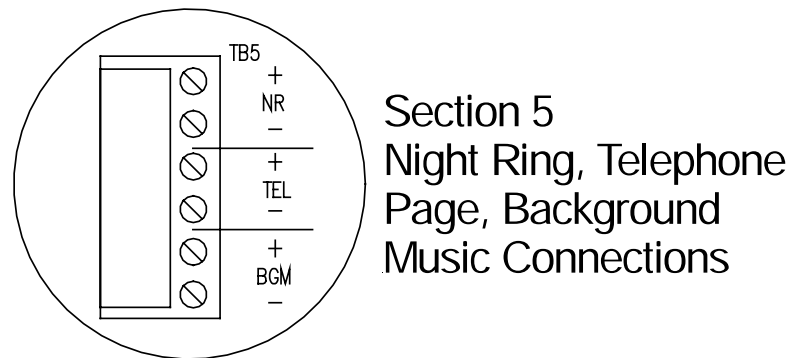

Figure 4-7 Ancillary Audio Input Connections
1. Connect Telephone Page Input (TEL) to TB5. See Figure 4-1 for TB5's location. Figure 4-7 is an enlarged picture of the referred area.
2. Connect Night Ring Input (NR) to TB5.